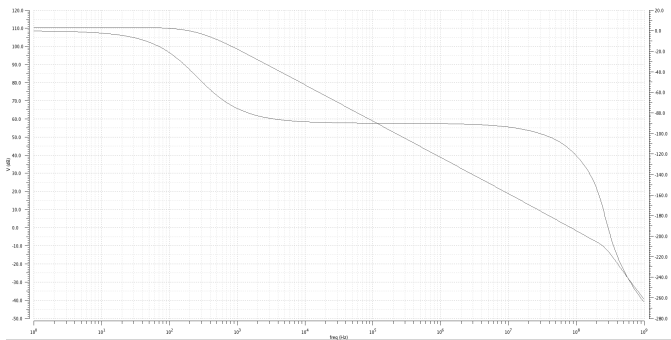

Figure 5: Frequency response of the operational amplifier.
Figure 5 shows the open-loop alternating current (AC) frequency response of the operational amplifier at 77K. There are two ordinates: to the left is the output amplitude V from -50dB to +120dB and to the right the phase margin (PM) from -280 to +20 degrees. The abscissa is the frequency from 1Hz to 1GHz. From the figure one can obtain the direct current (DC) gain of 110.6dB and the unity gain-bandwidth (UGBW) of 84MHz with a phase margin (PM) of 63.5° for the nominal load capacitance of 200pF. The corner simulation results for 77K are listed in Table 3.